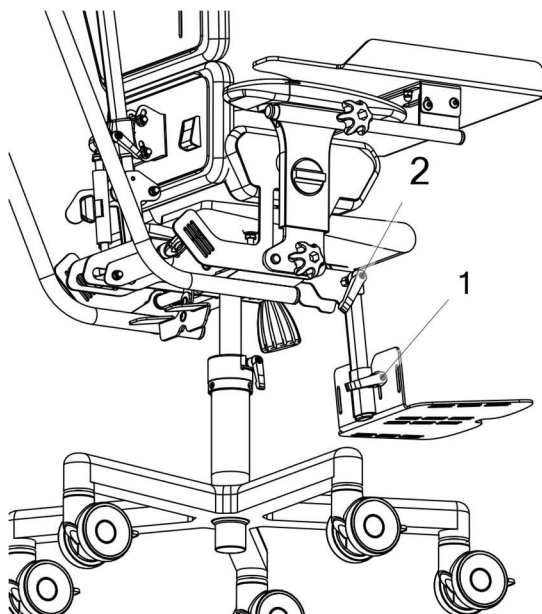

Fig. 6
In order to adjust the height of the footrest loosen knob (1) Fig. 6, move the footrest to the desired height, then tighten the knob (1). In order to set the correct angle of the footrest, loosen the knob (2), set the desired angle, then tighten the knob (2).